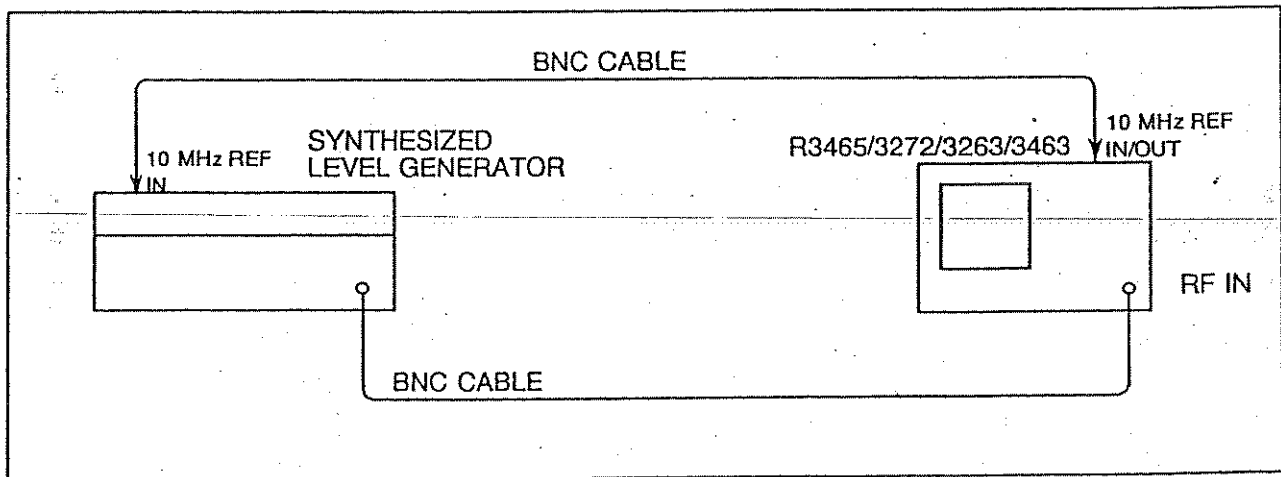

Figure 1-14 IF Gain Uncertainty Test Setup
(1) Connect the equipment as shown in Figure 1-14.
(2) Set the SG4 controls as follows: